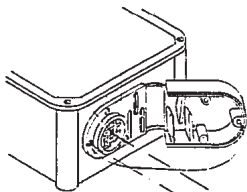

FIG. 3
5. Bend the ventilator closed as shown in figure 3 and 4. Install the gasket (item A) in place with the sealing washers (item B) and mounting screws (item C). Finally, screw ventilator to the enclosure. (Figure 4)